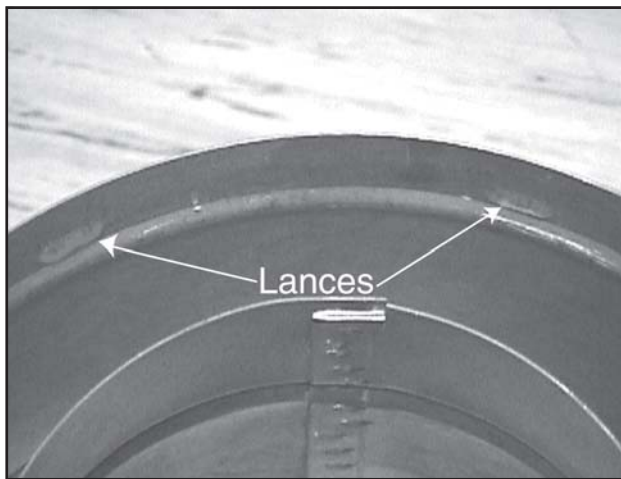

Figure 18.
- Slide the male end of the inner flue of the pipe section over the inner collar on the heater. At the same time, slide the outer flue over the outer collar on the heater. Push the flue section into the appliance collar until all the lances (see Figure 18) have snapped in place. Tug slightly on the flue to confirm that it has completely locked into place.